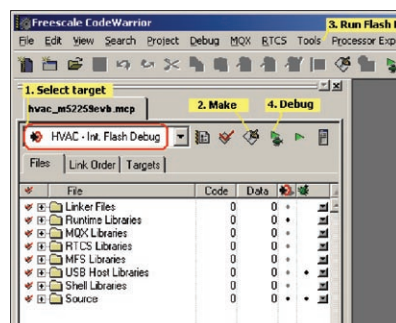

Figure 3: Project Loaded in the CodeWarrior IDE
7. In the project pane, select “HVAC—Int. Flash Debug” build target. See Figure 3 to the right.
13. Now start debugger and execute the application by clicking the **Debug** icon. This icon is identified in Figure 3 on right.